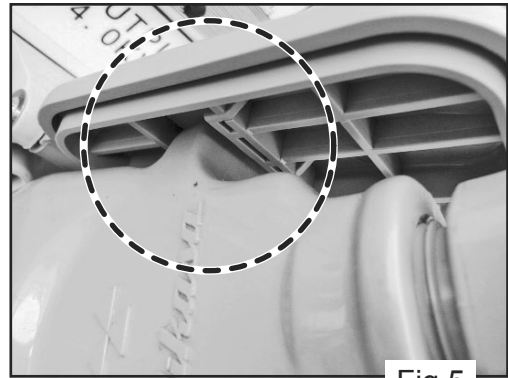

Fig.5
- 7.7 MCheck to make sure that the claw of the output outlet cover is securely catching the male plug and the plug does not come off even when the cord is pulled lightly. (Fig.5)